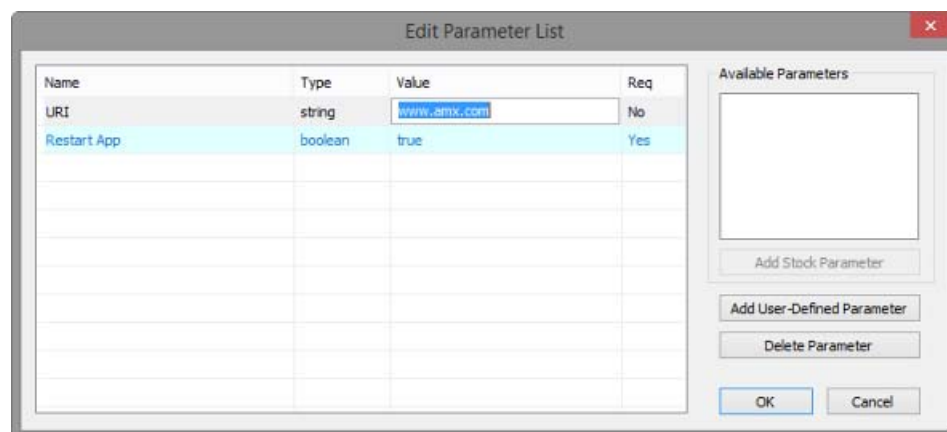

FIG. 334 Edit Parameter List dialog (for a Browser Application Window)
Unused stock parameters for the selected application window are listed in the *Available Parameters* window of the *Edit Parameter List* dialog (FIG. 334):
- The *URI* parameter is indicated in the Parameters list, as shown in FIG. 334. Since this is not a required parameter, it can be removed from the Parameter list (via the **Delete Parameter** button), in which case it is moved to the Available Parameters list as an unused available parameter. It can be added to the *Parameters* list via the **Add Stock Parameter** button.